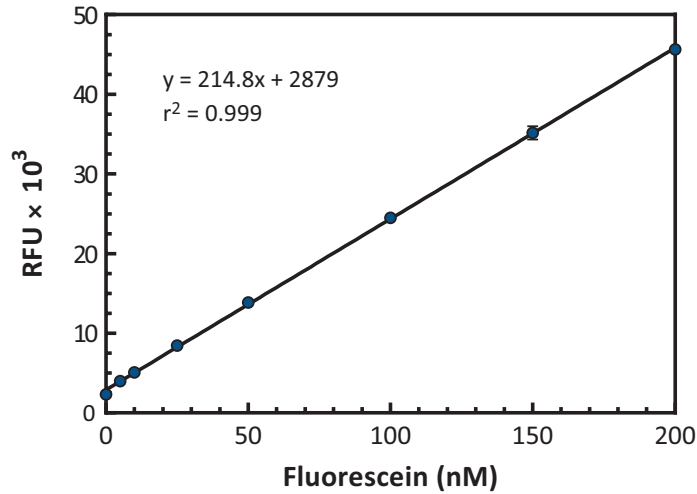

Figure 3. Fluorescein standard curve
2. Plot the corrected fluorescence values (from step 1 above) of each standard as a function of the final concentration of fluorescein from Table 1. See Figure 3, on page 16, for a typical standard curve.